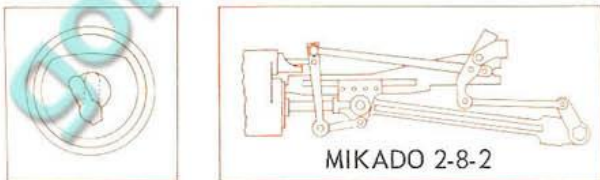

FIGURE 6
d. Assemble cylinder unit and cross head guides by inserting piston rod in cylinder followed by inserting single point end of crosshead guide into hole above it. See figure 6, 7, or 8, depending on locomotive.
g. With eccentric crank placed over end of bushing, replace main rod screw. The eccentric is now clamped between the end of the bushing and main rod screw. The eccentric crank may be set at any angle from 0° to 30° as shown in figure 6, 7, or 8. The 0° setting allows a minimum of movement and results in a minimum of wear; the 30° setting allows a maximum of movement and results in more wear.